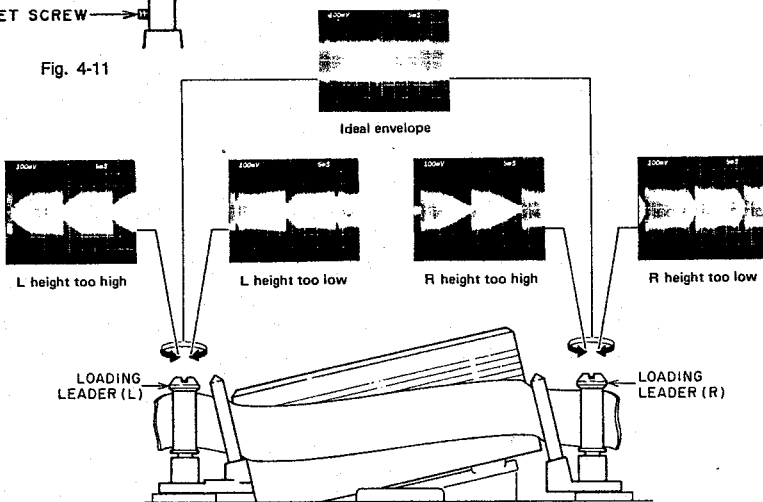

Fig. 4-12
- 4) Turn the LOADING LEADER heads with a flat head (←) screwdriver to obtain a flat RF envelope as the ideal envelope, as shown in Fig. 4-12.